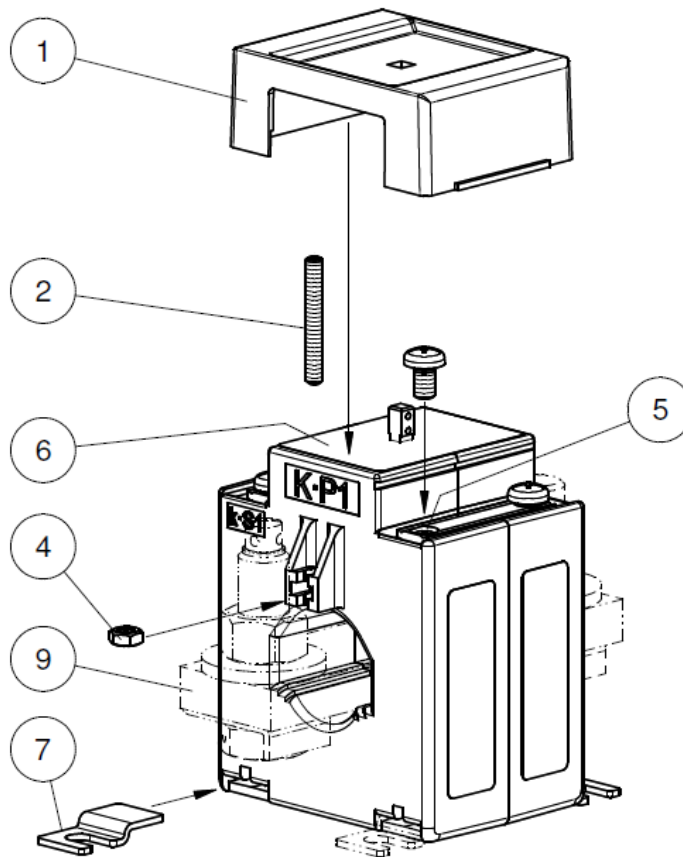

Figure 2.27: LMG-Z502, -Z510 Drawing 3D
Description of Figure 2.27:
- 2 Secondary terminals, max. tightening torque see Figure 2.27
- 3 Primary conductor fixture, max. tightening torque see Figure 2.27